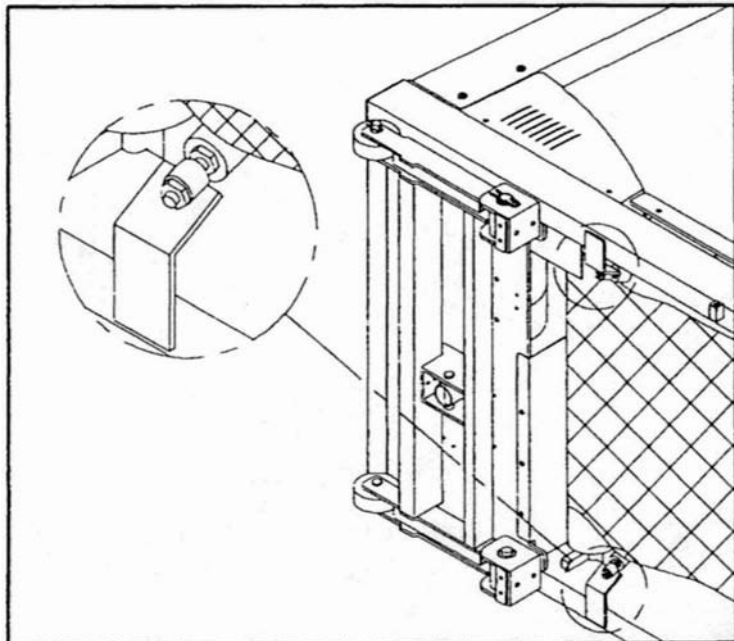

Fig.12
6.Adjust running belt inside the belt alignment roller.(see Fig.12)